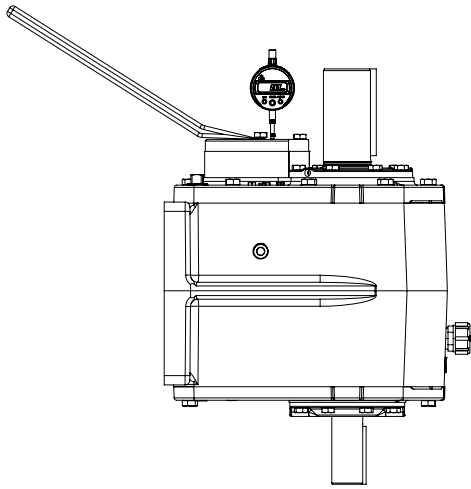

Figure 5 - End-play Check Setup
3. Install the backstop outer key (5) into the backstop carrier (1) and coat the bore with a thin film of oil.
4. Coat the backstop spacer (3) with a thin film of oil and insert into the reducer housing bore.
6. The backstop carrier (1) will be mounted with the dowel hole on the reducer side. Do not install dowel at this time. Install the backstop (4) into the carrier with the rotation arrow pointing in the desired direction of free rotation. Ensure that the parts are not tilted relative to each other. Lightly tap the backstop outer edge until it slides freely in the bore. Do not use excessive force.
9. Gently slide the backstop (4) and carrier (1) onto the shaft stub and into the housing bore while rotating the shaft in the overrunning direction. Shaft can be rotated via input shaft. Do not use excessive force during assembly.
11. Install the backstop cover (2) using 4x M10 x 1.50 cap screws (7). Tighten to 27 lb-ft torque.
12. Insert one M10 x 1.50 cap screw (7) through the backstop cover into the tapped hole in shaft. Snug cap screw to remove clearance in threads. Rotate and lightly tap cap screw to seat lower bearing.
13. Mount magnetic base dial indicator on housing with plunger on cap screw head parallel to shaft axis. Set indicator to zero. Pry under cap screw (6) head to measure bearing end-play. Bearings need to be adjusted to have 0.001 inches—0.003 inches end-play. Reference Figure 5.
9. Gently slide the backstop (5) and carrier (1) onto the inner race and into the housing bore while rotating the shaft in the overrunning direction. Shaft can be rotated via input shaft. Do not use excessive force during assembly.
11. Install the backstop cover (2) and four M12 x 1.75 cap screws (7). Tighten to 47 lb-ft torque.
12. Insert M10x1.5 cap screw (6) through cover and engage in tapped hole in shaft. Tighten cap screw (6) until there is just enough clearance on the bolt hex head to fit a pry bar underneath. Rotate the input shaft and lightly tap cap screw (6) to seat lower bearing before taking measurements.
13. Mount magnetic base dial indicator on housing with plunger on cap screw (6) head parallel to shaft axis. Set indicator to zero. Pry under cap screw (6) head to measure bearing end-play. Bearings need to be adjusted to have 0.001 inches—0.003 inches end-play. Refer to Figure 5.
15. For final assembly, remove backstop cover (2) and press dowel pin (8) into backstop carrier (1). Install O-ring (12) over oil feed passage. Install all fasteners with medium strength thread locker and tighten to 47 lb-ft torque.
17. Coat pipe plug (4) with a thread sealant and install in cover.